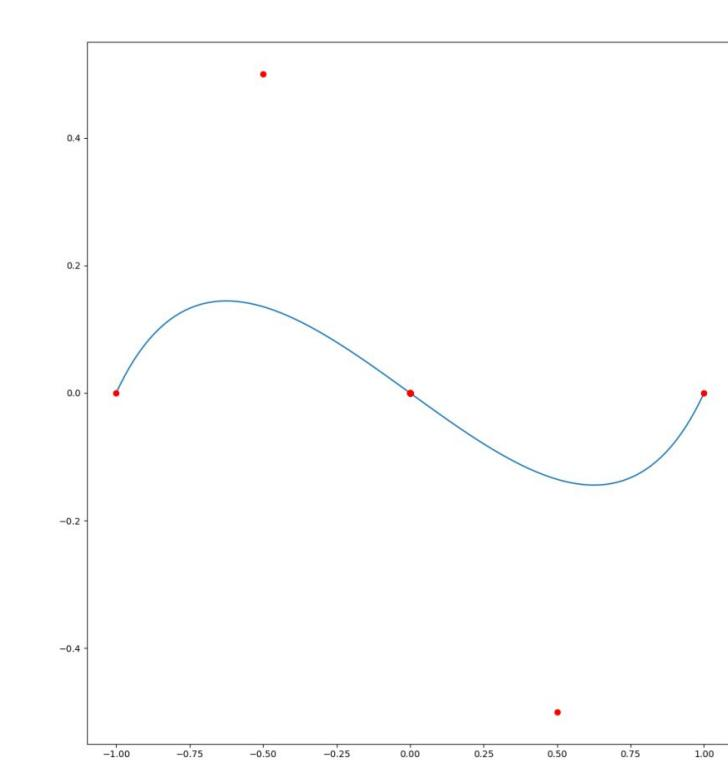

Figure 2: Bézier curve
4. A velocity profile is generated to accompany the path (see *Figure 2*)